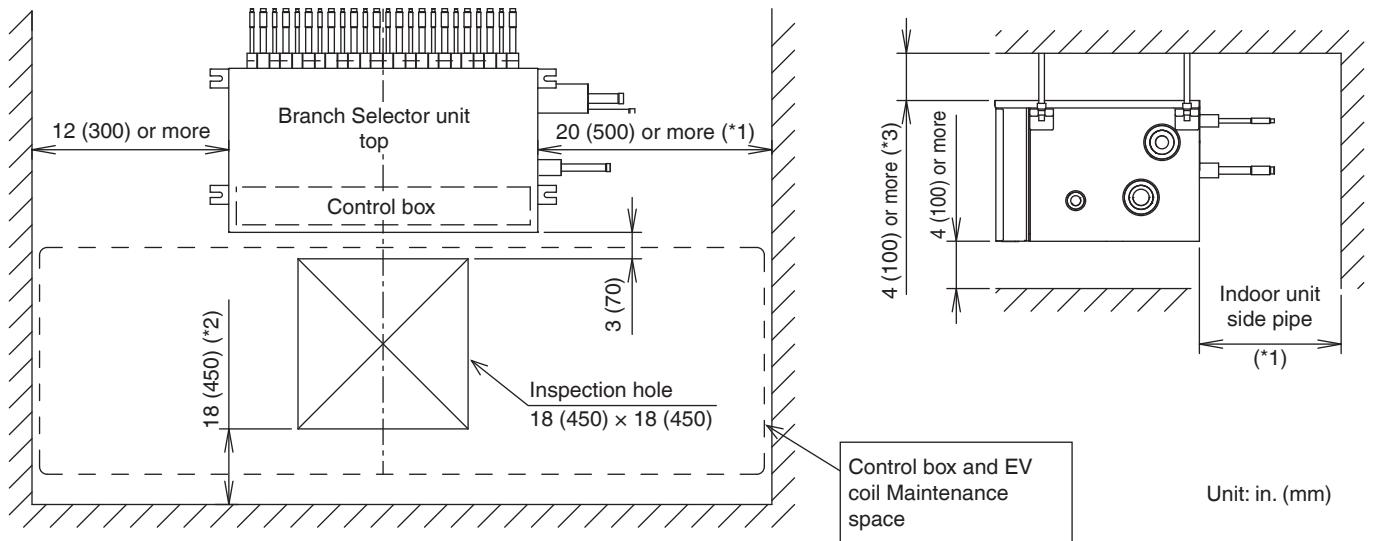

Fig. 1
- There must be adequate space in which to perform installation and service work. (Refer to Fig. 1.)